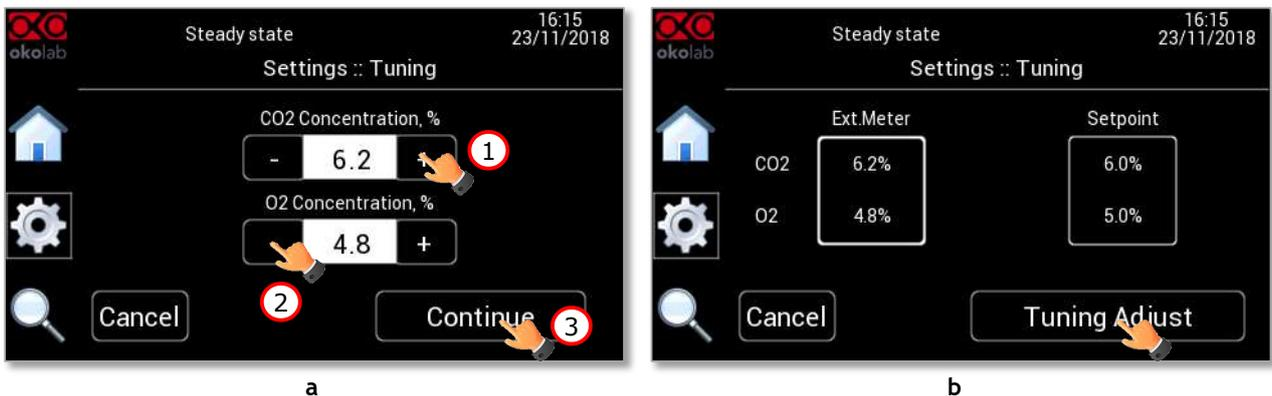

Figure 124. Tuning adjustment (a - b).
5. Press on +/- icons to input the CO₂ (1 in Figure 124 a) and O₂ (2 in Figure 124 b) compositions read by LEO (i.e. 6.2% for CO₂ and 4.8% for O₂).